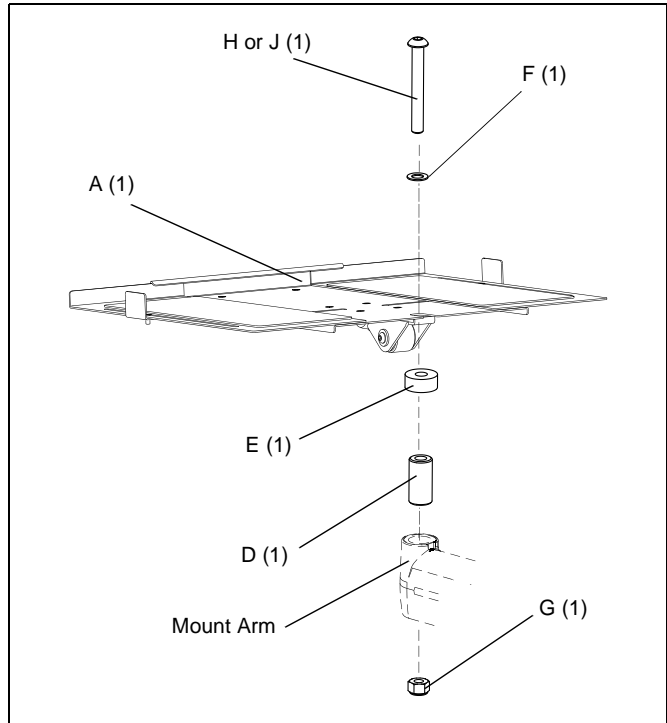

Figure 2
3. Uninstall button head cap screw, one nylon washer, and two flat washers from swing arm and set aside for reuse. (See Figure 2)
4. Remove large nylon washer, pivot pin, and Nylock nut from existing mount base and set aside for reuse. (See Figure 2)
1. Place pivot pin (D) into mount end. (See Figure 2)
2. Place nylon spacer (E) on top of mount end.
3. Assemble UHMW washer (F) to BHCS (H or J).
4. Install threaded end of BHCS (H or J) through access hole in tray top and down through mounting tab of tray assembly (A), down through spacer (E), pivot pin (D) and through mount end.
5. Slide Nylock nut (G) up into bottom of mount end.
6. Hold Nylock nut (G) in bottom of mount and tighten BHCS (H or J) to desired tension. (See Figure 2)